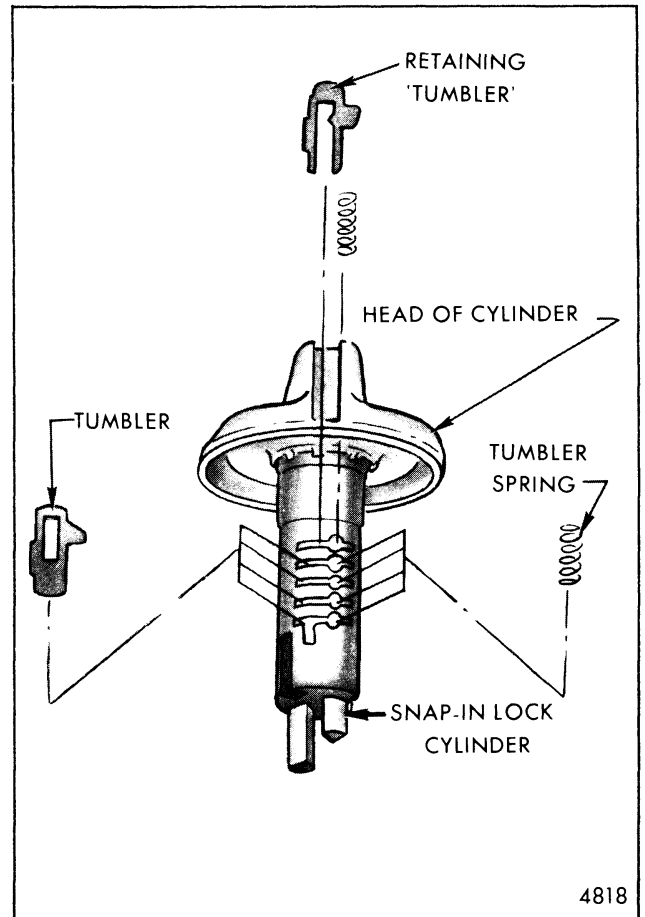

Fig. 1-6-Installing Tumblers
2. Starting at open end (head) of cylinder, insert tumbler spring and retainer "tumbler" in first position, then proceed to insert tumbler springs and tumblers in their proper slots in the order previously determined by code, as shown in Figure 1-6.